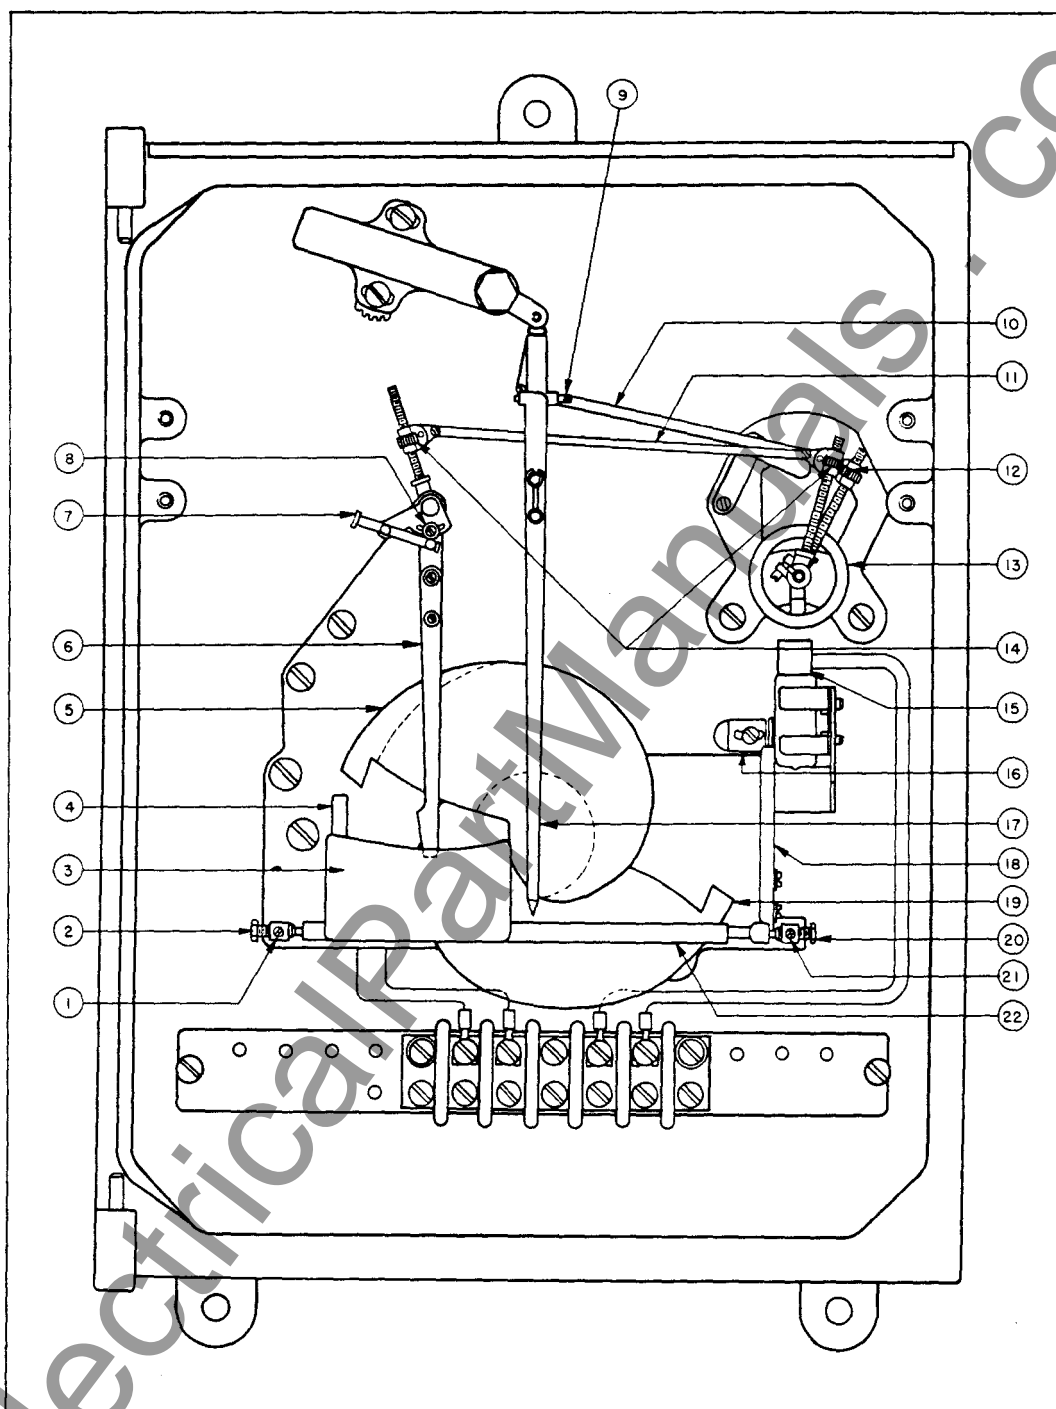

FIGURE 2 DETAILS OF TYPICAL METAMETER TRANSMITTER
CODE TO FIGURE 2
The armature of the electromagnet has two brake shoes. One brake shoe engages one braking disc when the magnet is deenergized, and the other shoe engages the other braking disc when the magnet is energized. On the Model M (see Figure 2) the brake shoes are mounted on a separate bracket which is linked to the armature.
1. **On Metameter Transmitters.** The indicating pointer and cam follower should read zero when the measuring element is at zero (or low end of scale). If they do not, adjust point adjustments (Items 9 and 7 in Figure 2).